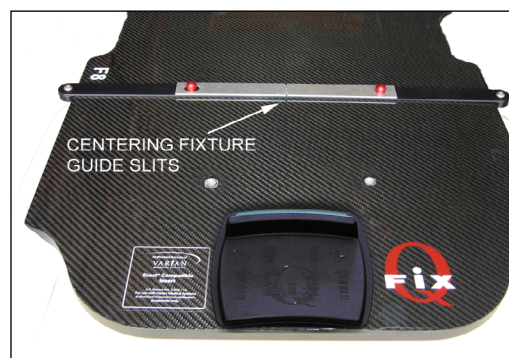

Fig. 22
1. Use the CT laser alignment system to define the center of the Foot End of the CT Overlay (Fig. 22).